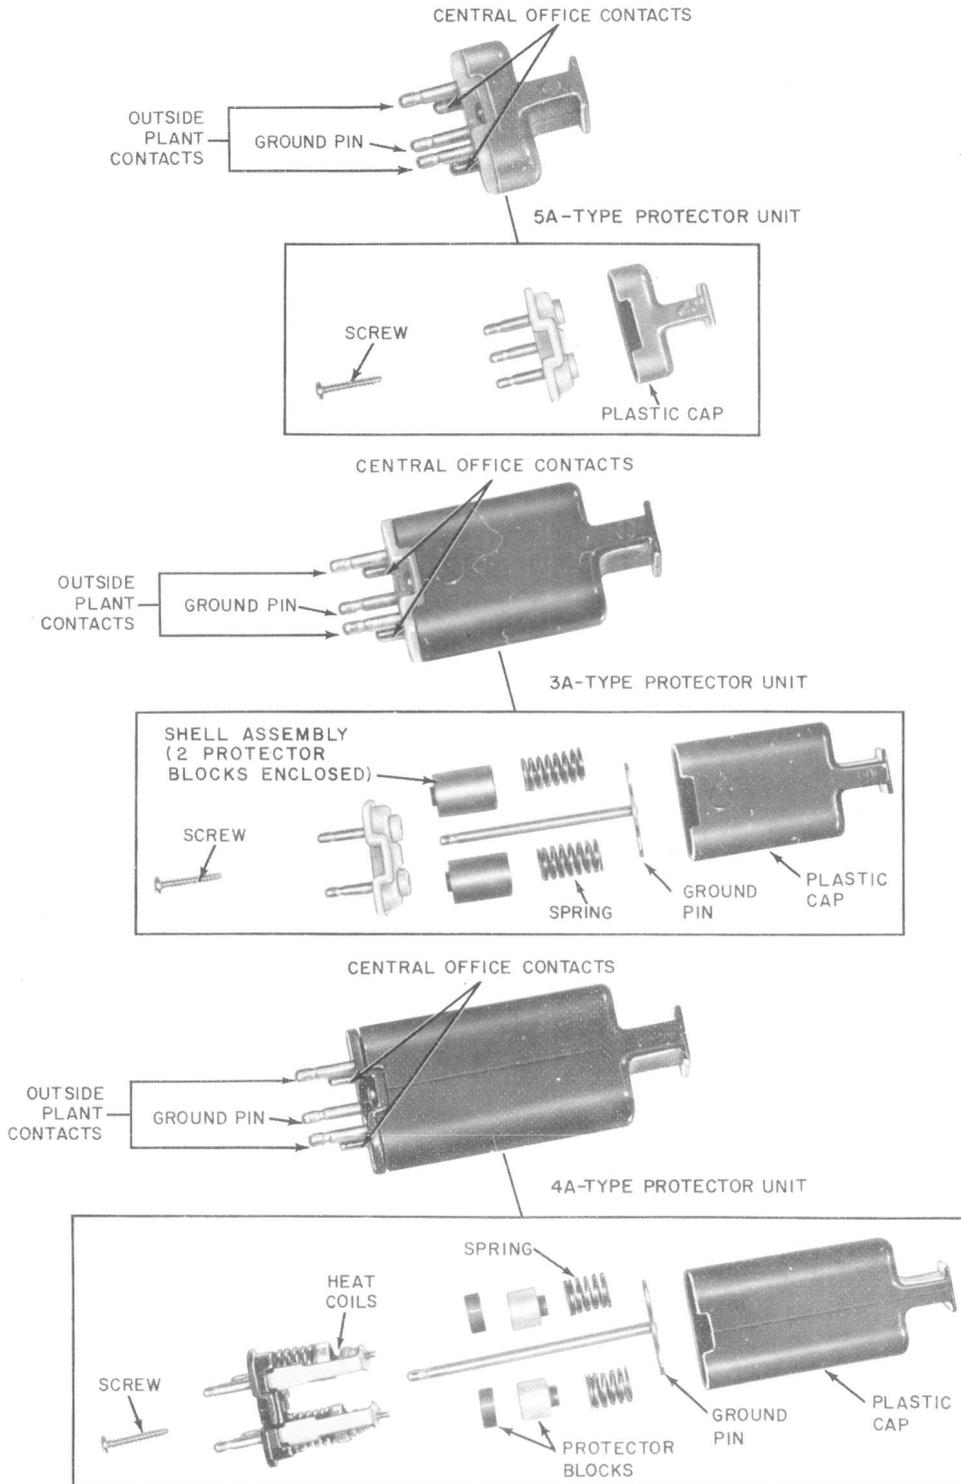

Fig. 3—Protector Units and Designation Pin (for Gold Plated Terminal, ESS, 302-Type Connectors)
7.01 Protector units for protection of ESS equipment (Table A) consist of the elements necessary to provide the required level of protection packaged in a plug-in unit (Fig. 3). See Table B for class of protection and protector units used. The types of protector units are as follows.
8.01 Special lines with high priority require special service protection. Protector units are color coded according to the type of service they serve as shown in Table B. Colored designation pins are inserted into the connector (Fig. 3) beneath the protector unit to designate the color of the protector to be used.